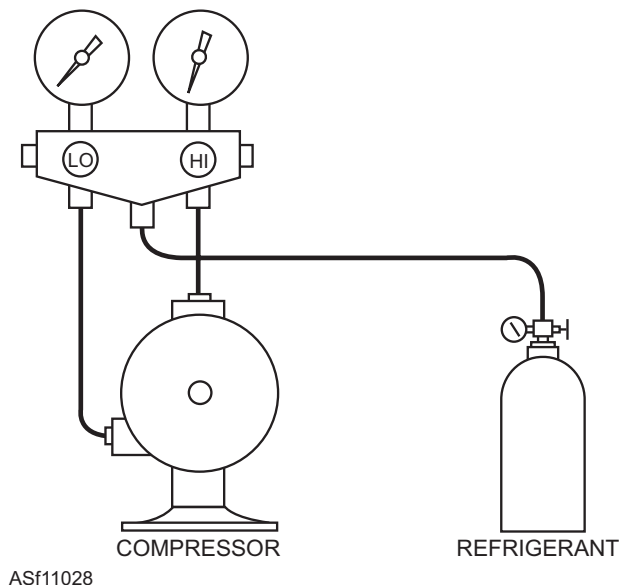

Figure 11-28.—Connections for low-side charging.
1. Connect a hose between the center connection of the manifold test set and the cylinder of refrigerant (fig. 11-28). Tighten both connections. If using a single port/single valve cylinder, ensure that the cylinder is in the upright position (valve at the top).